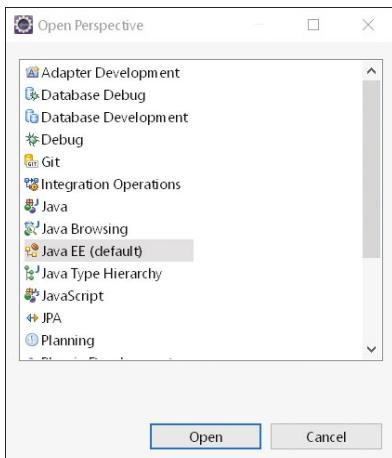

Figure 6.95 Selecting the Integration Designer Perspective
2. Select **Java EE (default)** (Figure 6.95).